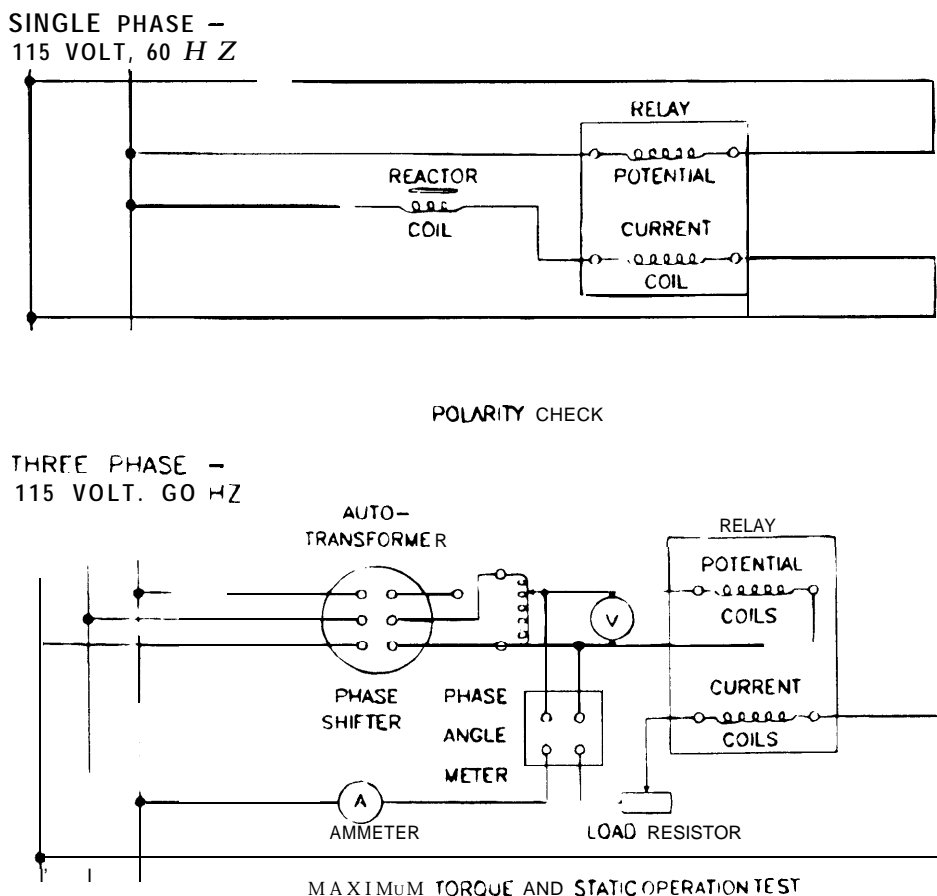

Figure 11-4. Typical test connections for reactance distance relays
*c. Distance relays.* Check currents and phase angles, angle of maximum torque, and directional characteristics. Test operating sequences, including time, contact resistances, and relay reach, at various load power factors and settings. Figure 11-4